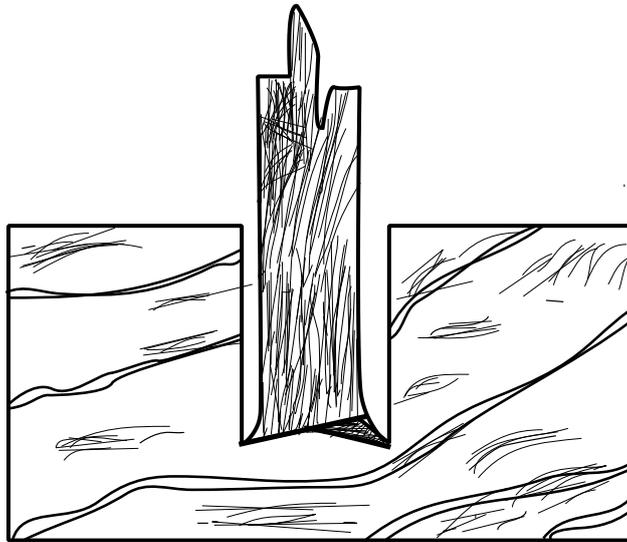

Fig 2
- 7 (a) **Figure 2** shows a cut made by a crosscut saw.